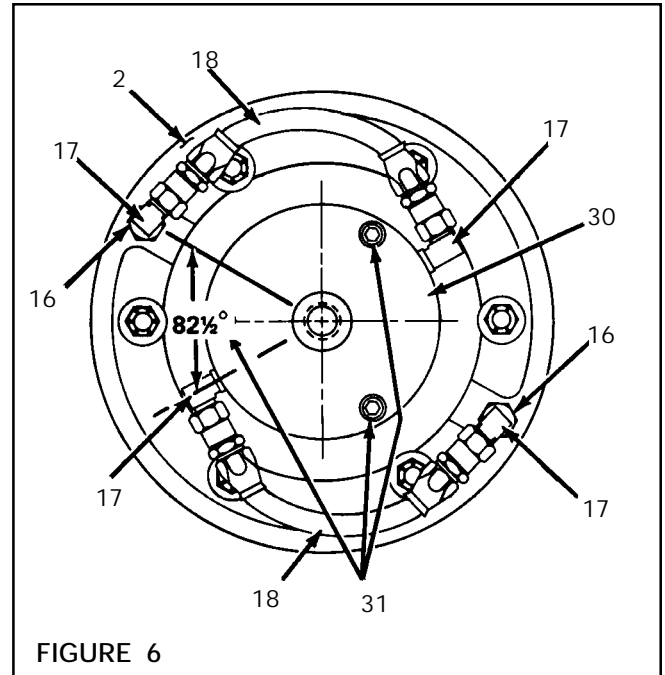

FIGURE 6
1. Install two Elbow Fittings (Item 17) into the Rotary Air Union Cap (Item 30) (See Fig. 6).
2. Install an Adaptor Fitting (Item 16), and an Elbow Fitting (Item 17) into each air inlet of the Piston/Drive Disc (See Fig. 6).
3. Using Cap Screws (Item 31), attach the Rotary Air Union Cap (Item 30) to the tapped holes of the Q.D. Bushing (See Fig. 6).
NOTE: The Rotary Air Union Cap air outlets must be aligned at approximately $82\frac{1}{2}^\circ$ to the Piston/Drive Disc air inlets for proper Hose (Item 18) connection (See Fig. 6).
5. Install Hoses (Item 18) (See Fig. 6).